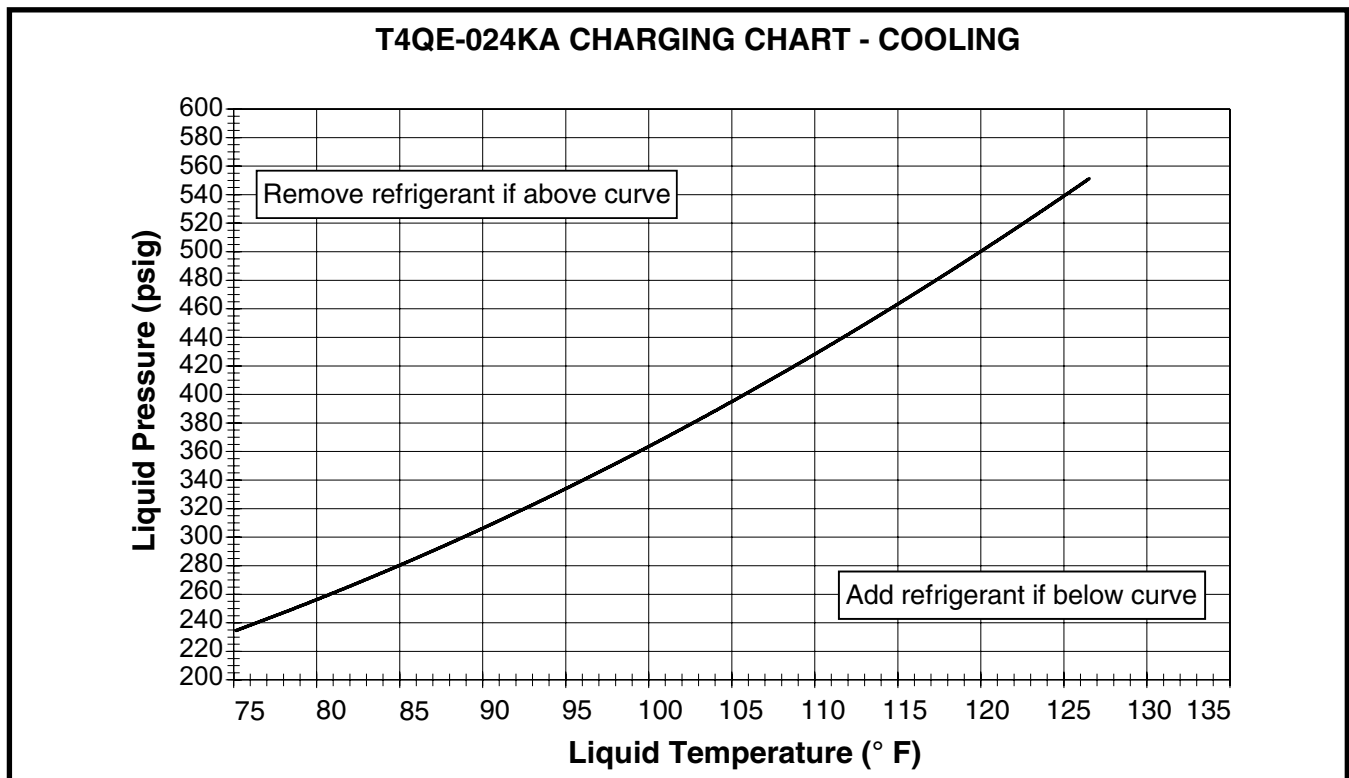
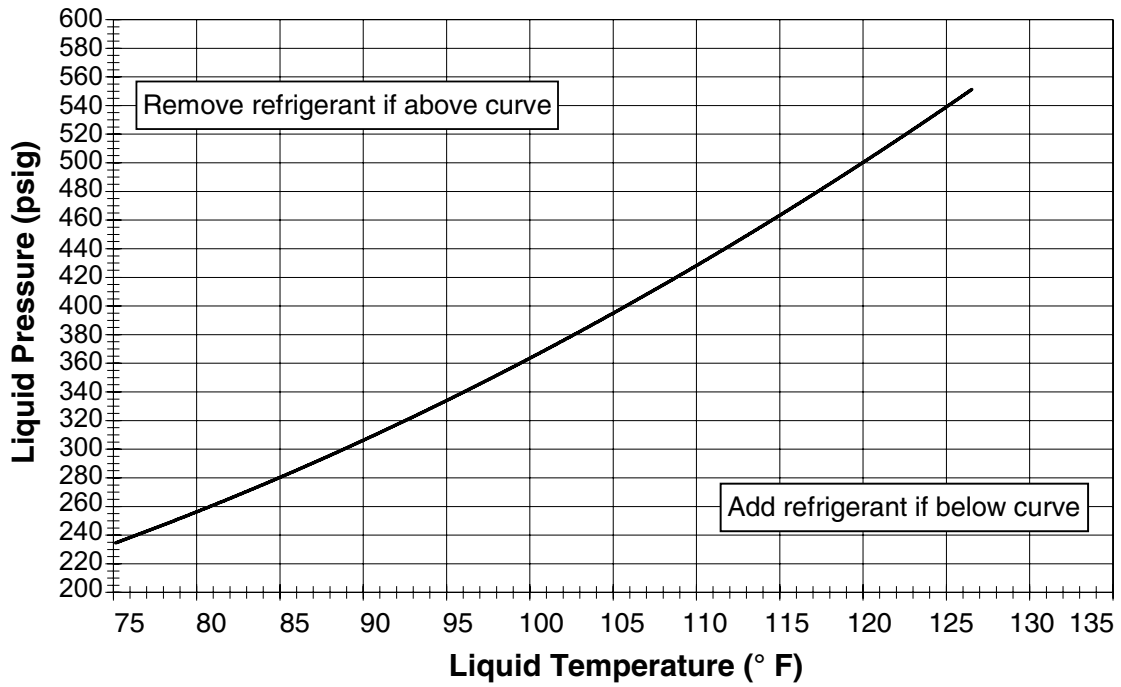
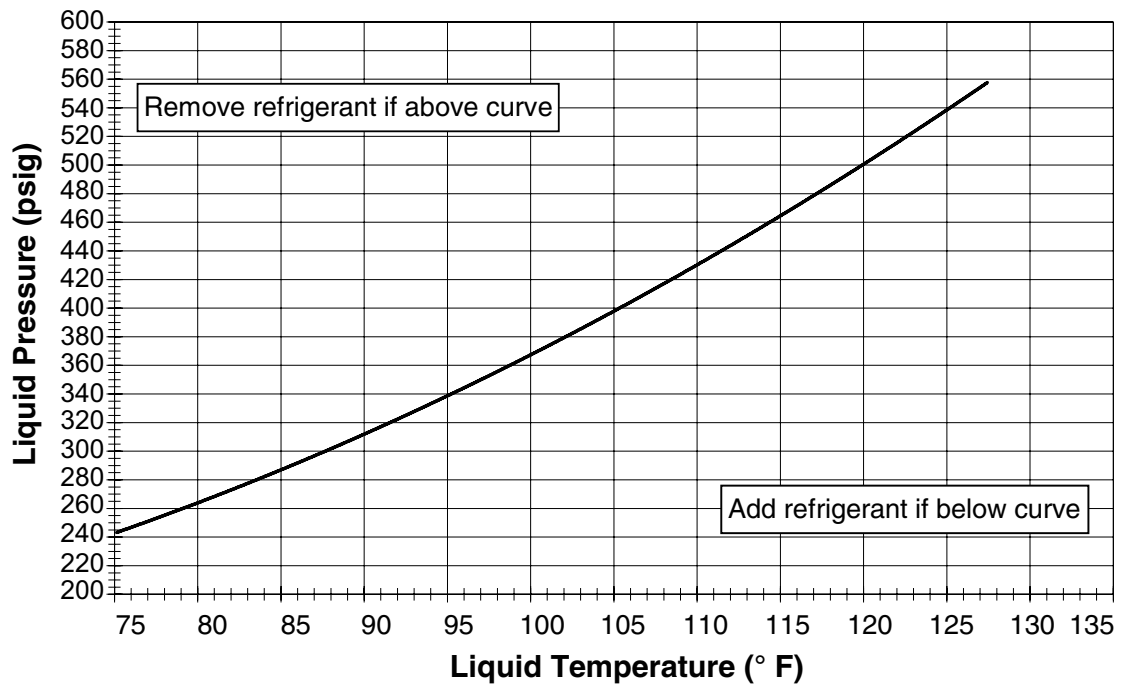
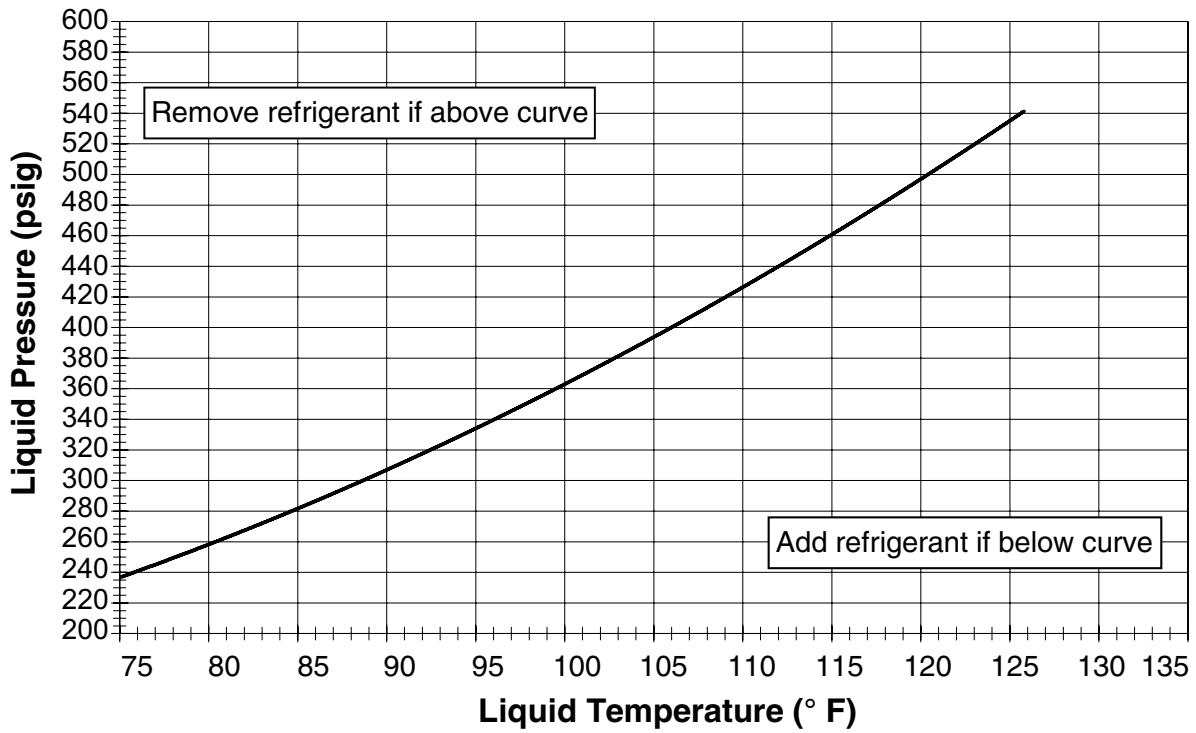

Figure 3. Charging Chart for 2 Ton Models (TXV Matches)
Figure 4. Charging Chart for 2.5 Ton Models (TXV Matches)
Figure 5. Charging Chart for 3 Ton Models (TXV Matches)
Figure 6. Charging Chart for 3.5 Ton Models (TXV Matches)
- Cooling mode charging charts and tables are applicable only to matched assemblies of this equipment and listed airflows for the indoor coil. Refer to the Quick Reference Data sheet for additional charging information. Outdoor units with non-AHRI listed indoor coils are not recommended and deviations from rated airflows or non-listed combinations may require modification to the expansion device and refrigerant charging procedures for proper and efficient system operation. For correct system charging, refer to Figure 3 \(page 8\), Figure 4 \(page 9\), Figure 5 \(page 9\), Figure 6 \(page 10\), and Figure 7 \(page 10\).
3. Determine the appropriate liquid refrigerant pressure from Figure 3, Figure 4, Figure 5, Figure 6, and Figure 7.
- Charging charts are valid for a variety of indoor, return air conditions and are most influenced by the outdoor ambient temperature, outdoor fan operation and the unit operating voltage. Before using these charts, make sure the unit is in a stable operating mode. As shown in Figure 3, Figure 4 (page 9), Figure 5 (page 9), Figure 6 (page 10), and Figure 7 (page 10) the ideal system sub-cooling can vary over the range of operation. Reference the charts to determine the ideal amount of sub-cooling for a given liquid pressure. Units charged to other values will not perform at the rated unit efficiency (EER) or rated Coefficient of Performance (COP) in heating mode.